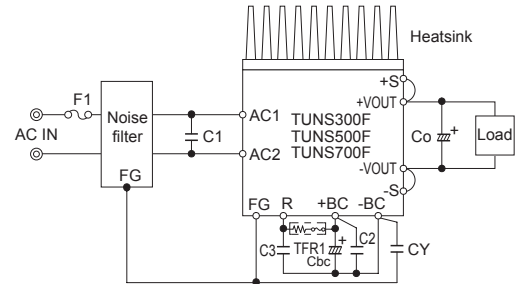

Fig.2.1 Connection for standard use
- To use TUNS series, connection shown in Fig.2.1 and external components are required.
(1) Co : Output capacitor
■ Install an external capacitor Co between +VOUT and -VOUT pins for stable operation of the power supply (Fig.2.1).